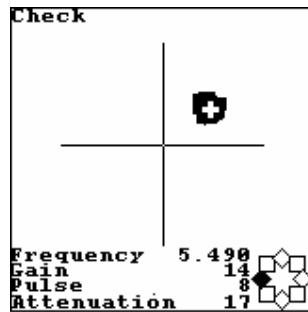

Fig. 17
9. Without detaching transducer from the flaw free area, press the SHIFT key. DAMI-C HA01 will fill the region in which the obtained trajectory is contained and will go to the Check submode (Fig. 17). This submode allows the current tuning to be checked and modified, if necessary. The filled admissible impedance zone is eight-sided adjustable. Move the transducer from flaw free area to flaw containing area and vice-versa. The marker deviation out of admissible impedance zone is considered as a defect and in such a situation the front panel red led turns on. Adjust the admissible impedance zone to ensure the proper indication of artificial defects on the TS-1specimen. The octagon in the bottom right corner indicates the direction in which the admissible impedance zone may be increased (decreased). Press RIGHT key to change the direction of increasing. Press UP (DOWN) keys to increase (decrease) the filled region. The LEFT key permits to invert the filled zone, so that the points in which the deviation of the impedance is out of initially filled region (before inverting) will be considered as flaw free points. This feature permits to make a tuning, based on flaw containing area (all surface points, in which the impedance deviation exceeds the filled zone, are considered as flaw free points) as opposed to tuning based on flaw free area.
6. When the appropriate tuning is found press Enter key. DAMI-C enters the Check submode (Fig. 17). Press SHIFT key to turn DAMI\_C to **Threshold** tuning submode. In **Threshold** submode the following steps are recommended:
- follow the items 8-13 in the manual tuning chapter.